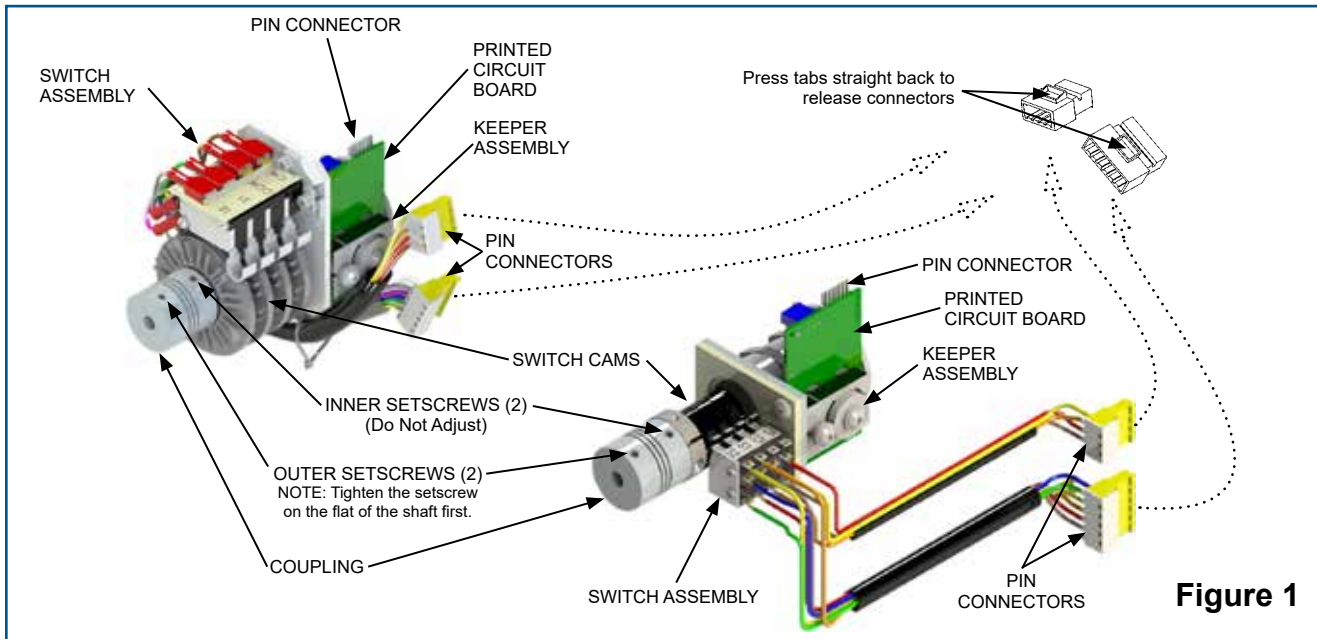

Figure 1
Refer to Fig. 1 for component identification.
3. Disconnect the control end assembly electrical circuits by unplugging the three multi-pin connectors from the actuator. Two connectors lead from the switch subassembly and the other connector leads from the Printed Circuit board. To disconnect the switch subassembly connectors, use a 3/16" flat-tipped screwdriver to press the release tab straight back (see Fig. 1) and pull the plug out of its socket. The connector leading from the P.C. board slides off with modest force.